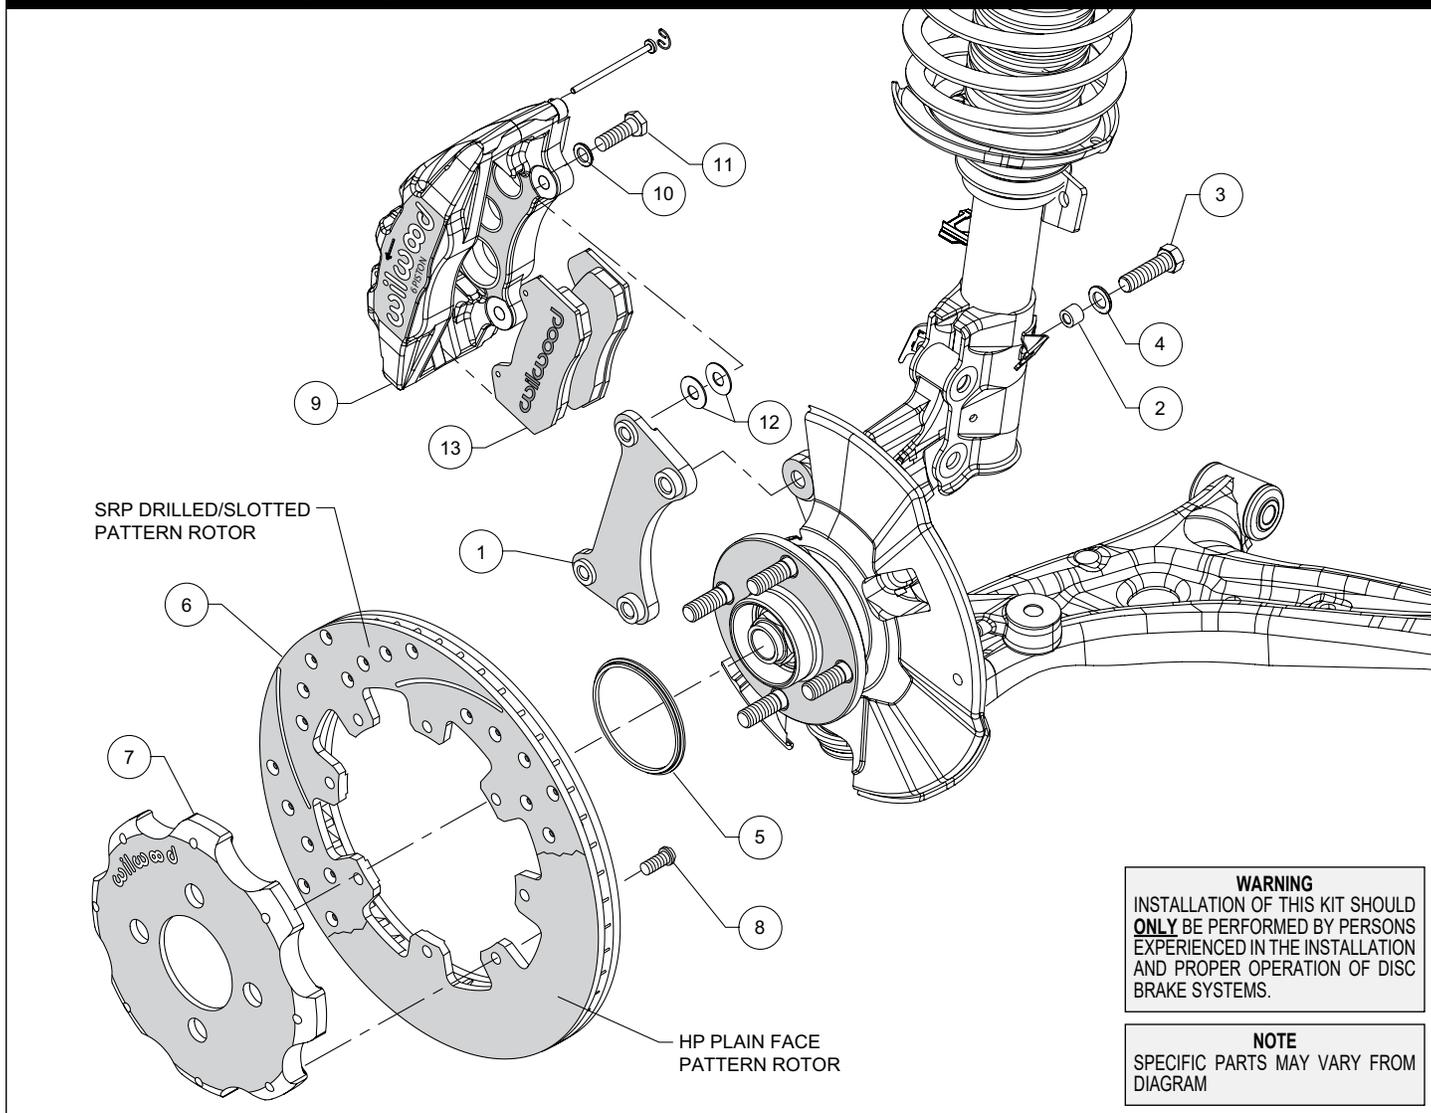
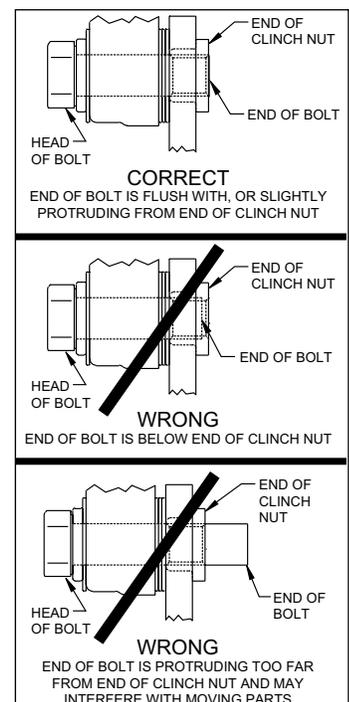

Figure 1. Typical Installation Configuration
Figure 3. Clinch Nut Engagement Diagram
NOTE: Numbers in parenthesis refer to the parts list and Figure 1 on the preceding pages.
CAUTION: All mounting bolts must fully engage clinch nuts. Be sure to check that all bolts are either flush or protruding through flanged side of clinch nut after shimming, Figure 3.
•Orient the caliper mount bracket (1) as shown in Figure 1 and Photo 1, and install using bolts (3) and washers (4). Insert one sleeve (2) into each of the holes in the spindle “ears” where the Original Equipment Manufacturer (OEM) caliper bracket was removed. Ensure that the flanged heads of the clinch nuts in the bracket are facing outboard, Photo 1. Temporarily tighten the mounting bolts. **NOTE:** The bracket must fit squarely against the mount bosses on the upright. Inspect for interference from casting irregularities, machining ridges, burrs, etc. Remove bolts one at a time, apply red *Loctite*® 271 to the threads and torque to 60 ft-lb.
•Orient the rotor (6) and the hat (7) as shown in Figure 1 and Photo 2. Attach rotor to hat using bolts (8). Apply red *Loctite*® 271 to the bolt threads and torque to 25 ft-lb using a criss-cross pattern.
•Slide the rotor registration adapter (5) onto the axle register on the axle hub with the smaller O.D. facing toward the rotor/hat (6/7), Photo 3. Slide the hat/rotor assembly onto the axle hub, Photo 4. **NOTE:** The hat must fit flush against the axle hub flange or excessive rotor run out may result. Install three lug nuts (finger tight) to keep the hat/rotor assembly in place while continuing with the installation.
•**NOTE:** Please reference the caution statement at the beginning of the assembly instructions. This kit contains distinct right and left hand calipers that must be mounted in a specific direction, as described below. Mount the caliper (9) onto the caliper mounting bracket (1) using bolts (11) and washers (10), as shown in Figure 1. Initially place two .035" thick shims (12) on each bolt between the caliper and the bracket, Photo 5. Ensure that the caliper is mounted so the largest pistons are at the rotor exit end of the caliper, in relation to the direction of rotor rotation. Temporarily tighten the mounting bolts and view the rotor (6) through the top opening of the caliper. The rotor should be centered in the caliper, Photo 6. If not, adjust by adding or subtracting shims between the bracket and the caliper. Always use the same amount of shims on each of the two mounting bolts. **NOTE:** The end of each bolt must be flush with or slightly protruding from the head of the clinch nut, as shown in Figure 3. If necessary place spare shims between washer (10) and caliper mounting ear to achieve the proper clinch nut engagement. Once the caliper alignment and clinch nut engagement are correct, remove the mounting bolts and caliper.
•Remove the two pad retaining pins from the caliper (9) by carefully popping out the pin retaining clips and sliding out the pins. Insert the brake pads (13) into the caliper from the bottom, Figure 1 and Photo 7, with the friction material facing the rotor. Secure the brake pads in place with the pad retaining pins and clips, Photo 8. Reinstall the caliper onto the caliper mounting bracket. Apply red *Loctite*® 271 to bolt threads (11), and torque to 40 ft-lb.